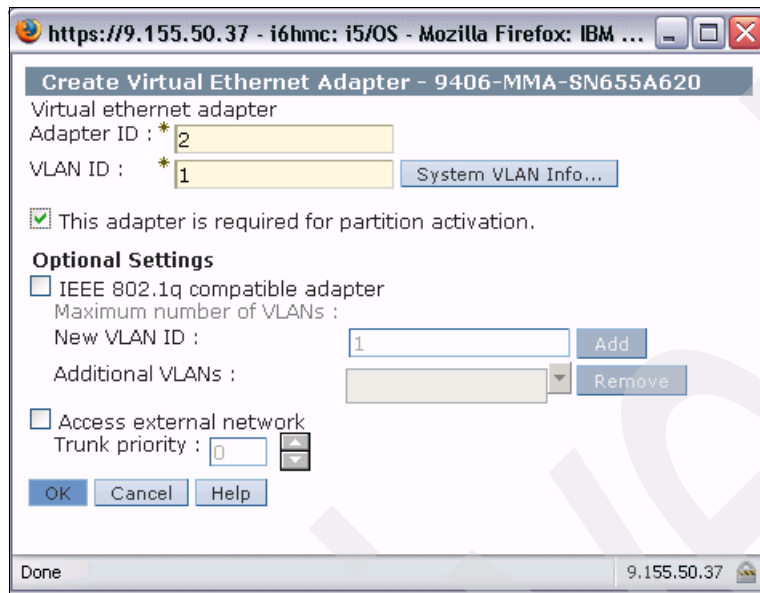

Figure 6-29 Create Virtual Ethernet Adapter dialog
- In the Create Virtual Ethernet Adapter dialog shown in Figure 6-29 we accept the suggested adapter ID of 2 and the VLAN ID of 1, mark **This adapter is required for partition activation**, and select **OK** to continue.